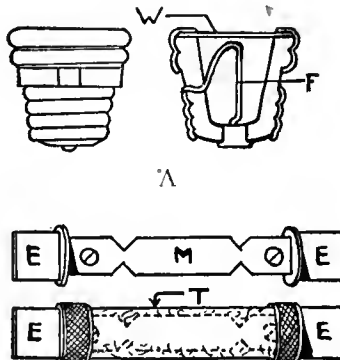

FIG. 411
4. In Figure 411 the _____ type of fuse is shown at A and the _____ type at B.